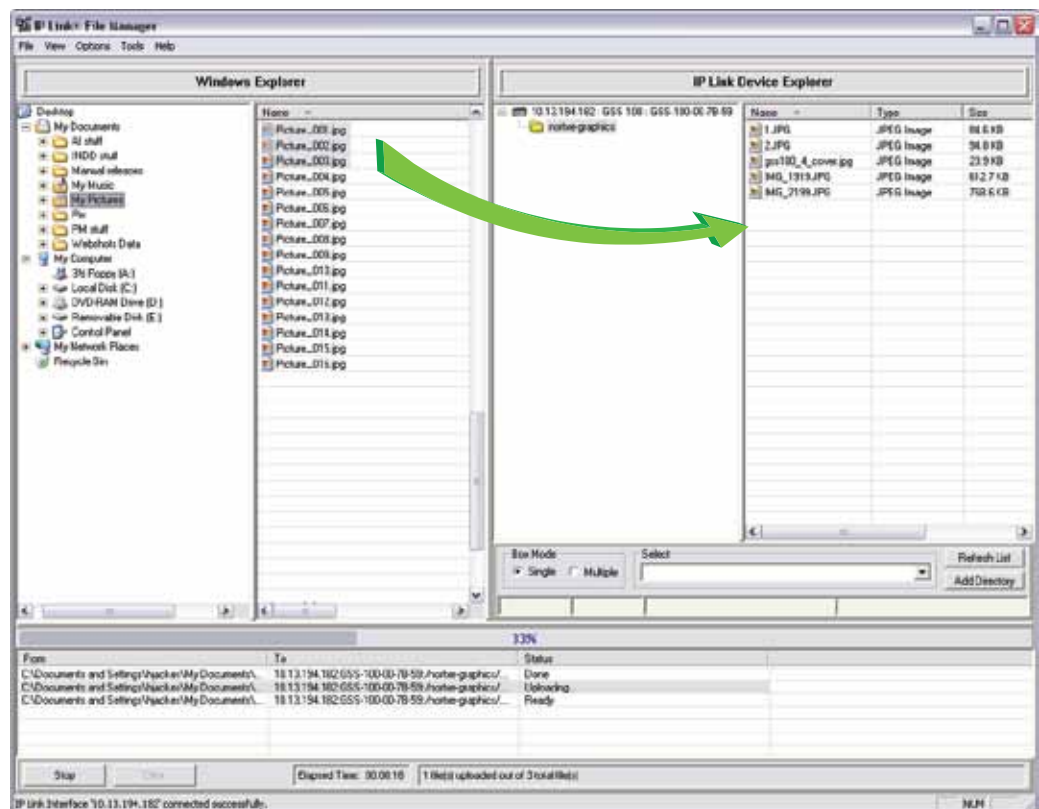

Figure 32. IP Link File Manager Program Window
4. The IP Link File Manager program window appears (see figure 32). The window contains two major sections.